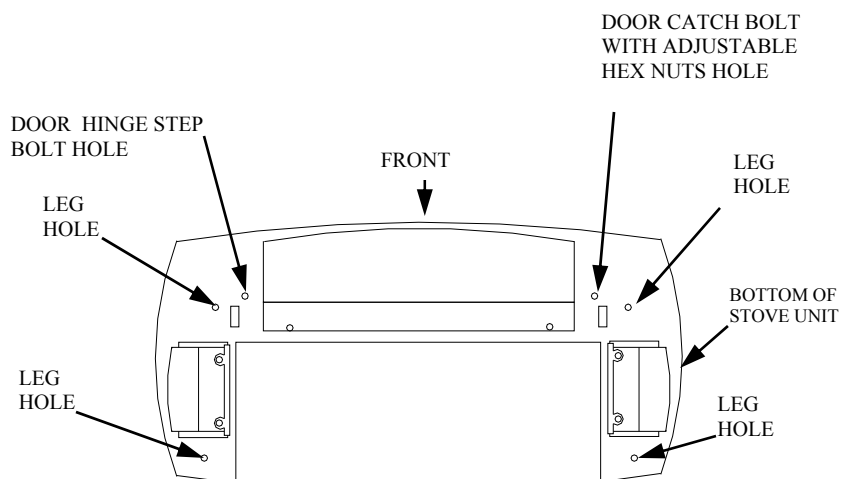

FIGURE 7 - LOCATING THREADED HOLES FOR STOVE BOTTOM, LEGS
8. Fasten each leg to stove with four (4) M8 x 1.25—20 mm bolts. Use a flat washer and lock washer with each bolt. Tighten bolts into threaded holes on stove body (See Figures 7 and 8). Use an adjustable wrench or a 12mm socket.